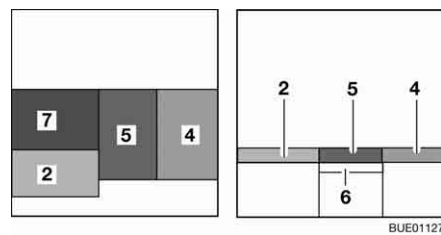

Fig. 122 After conversion
- Pull out the bedding box extension (Fig. 122,6).
- Place the seat cushion (Fig. 122,5) in the centre.
- Place the back cushion (Fig. 122,4) between the seat cushion and the wall.